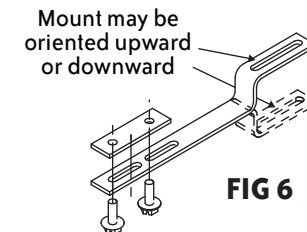

FIG 6
9. Place bolts through mount, spacer and bottom side of mounting surface, see FIG 6.